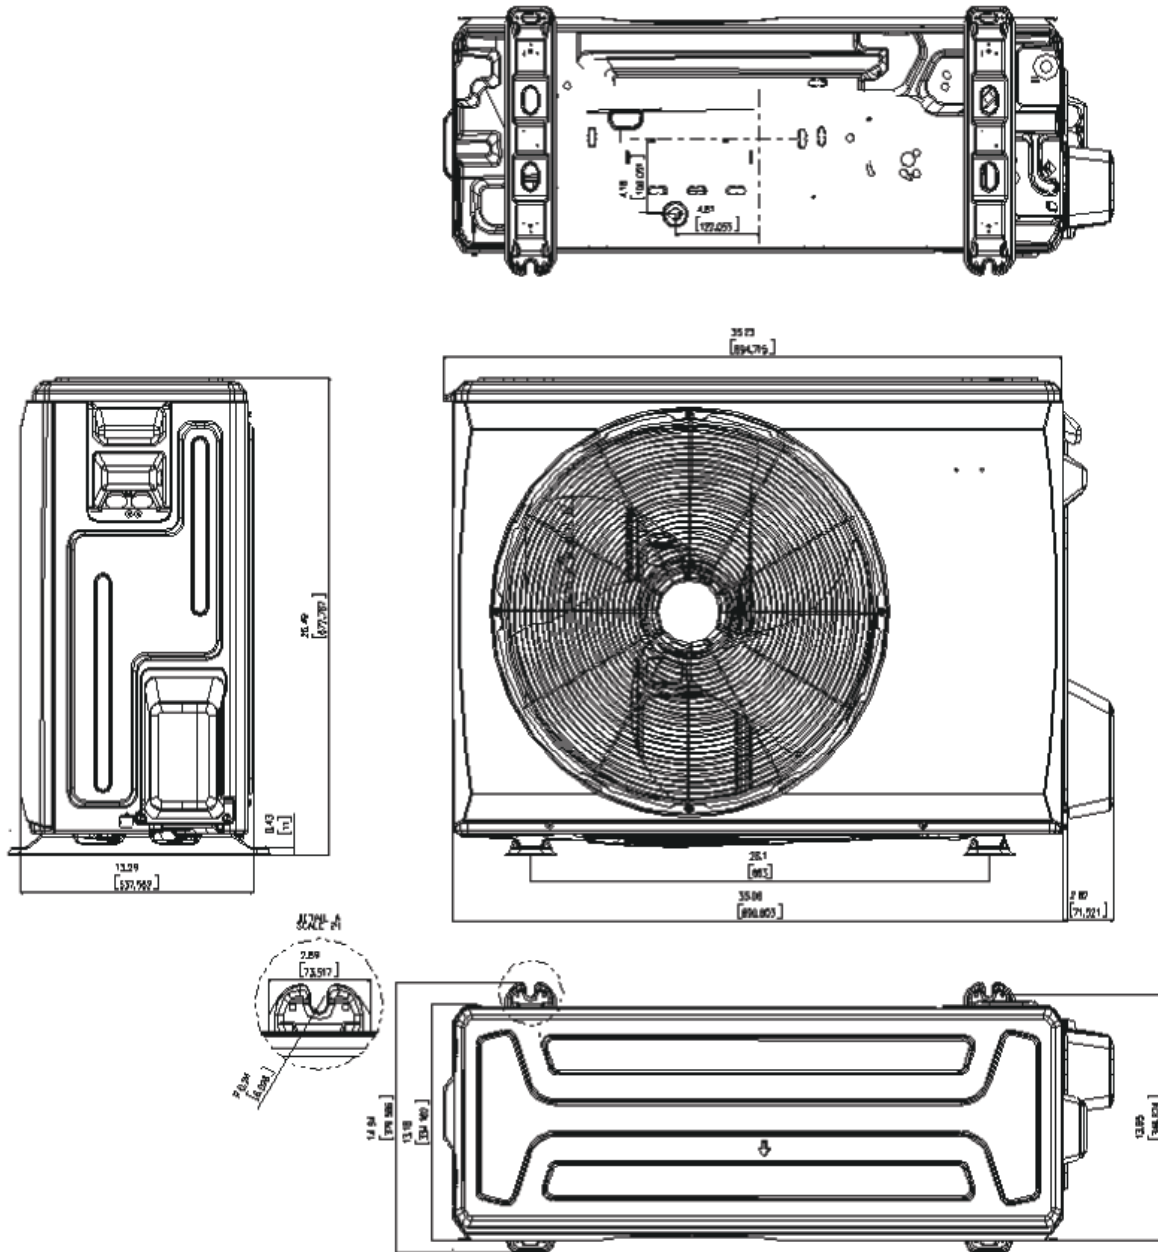

Fig. 3 — Sizes 9K and 12K
- A location which provides appropriate clearances (see Fig.3).